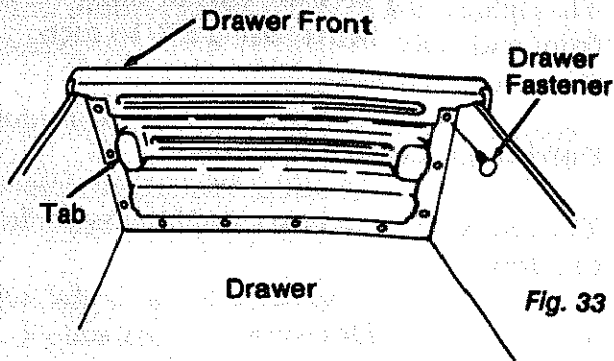

Fig. 33
2. Slide the drawer fronts onto the drawers. make sure that the tabs on the plastic drawer fronts slide over the metal drawers to help hold them in place. (Figure 33)
3. Push a plastic *drawer fastener* into each of the holes to hold the *drawers* together. (Figure 33)